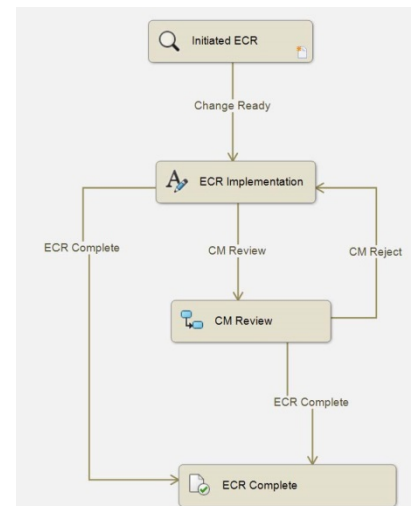

Figure 2
- ☼ Retrieve latest ECR form from vault, web area, file server. See Figure 2 for ECR work flow.